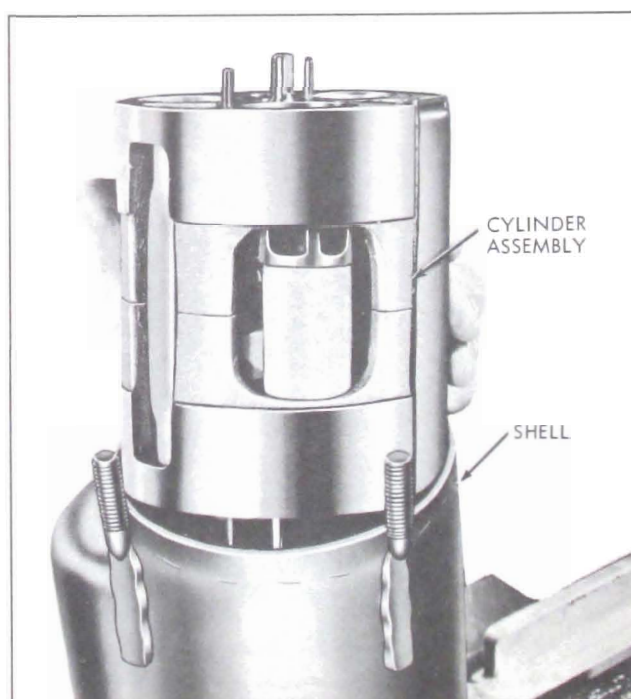

Figure 11-97—Removing Cylinder Assembly
2. Push on front of compressor shaft to remove cylinder assembly from shell. See Figure 11-97. The cylinder assembly will slide out of shell when shell is inverted.